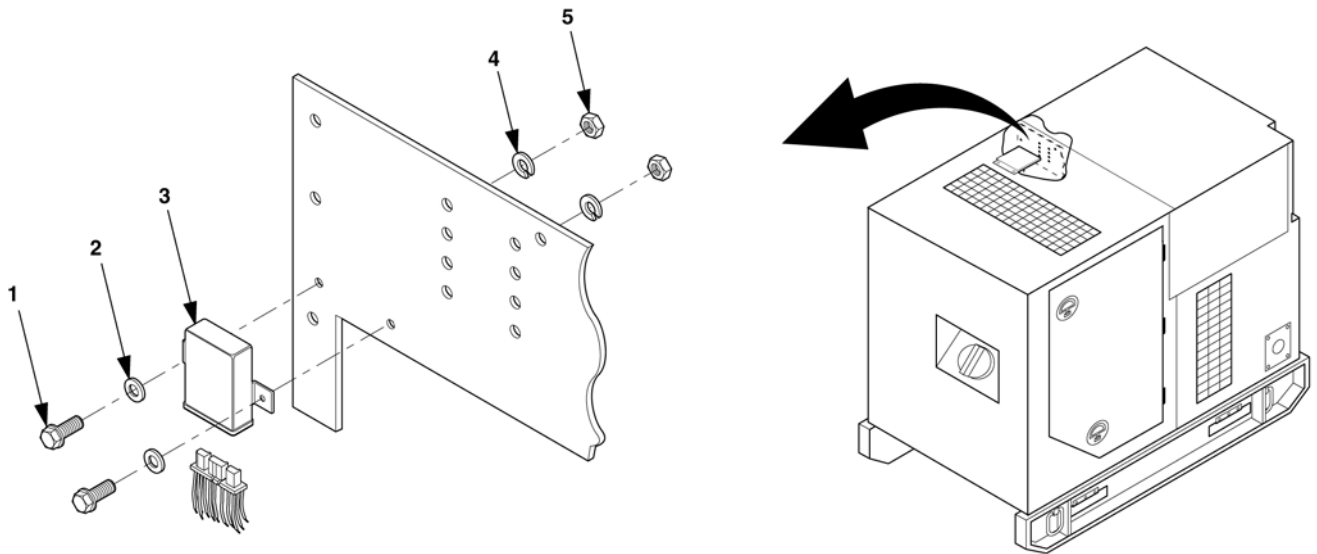

Figure 4-20. Control Unit Maintenance.
3. Remove two screws (1), Figure 4-20. flat washers (2), lock washers (4), nuts (5), and control unit (3).